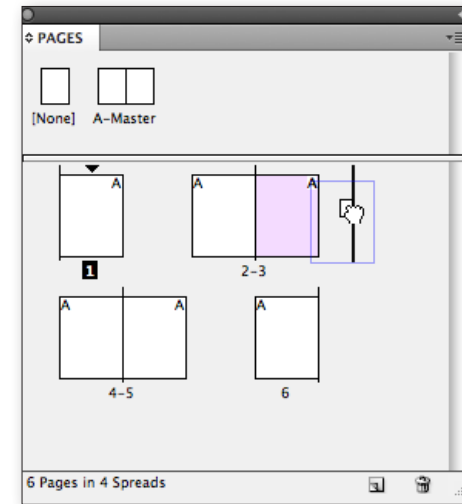

Figure 2: Pages Panel dialog showing the dark vertical bar when dragging.
2. With this option turned off, in the Pages section of the Pages panel, you can now carefully drag the right page of each spread to the right. Drag until you see a dark vertical bar, then release (**Figure 2**). Or choose Move Pages from the panel menu and tell it to “move page 3 to after page 3,” then “move page 5 to after page 5,” and so on.